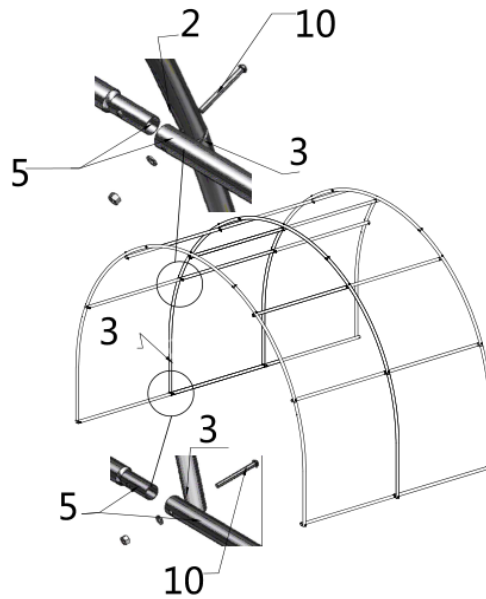

Figure 5
- Repeat the previous step to erect the second span truss, and then connect the other end Roof purlin (#5) with the truss with bolts (#10), and complete the installation of the second truss to the sixth truss in turn. (refer to figure 5)
- (7) Roof purlin (#5)
- (10) Mushroom head hexagon socket head bolt (#10)